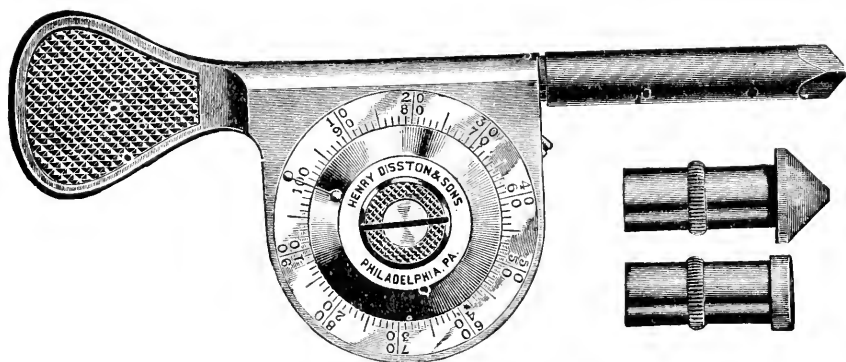

FIG. 86-- SPEED INDICATOR
2. Measure the drive and driven pulleys on the saw table and find the R. P. M. of the saw arbor? What is the surface speed each for a 10" and a 12" saw when run at this speed? In using speed indicator, Fig. 86, what do you find to be the R. P. M. of the saw arbor?